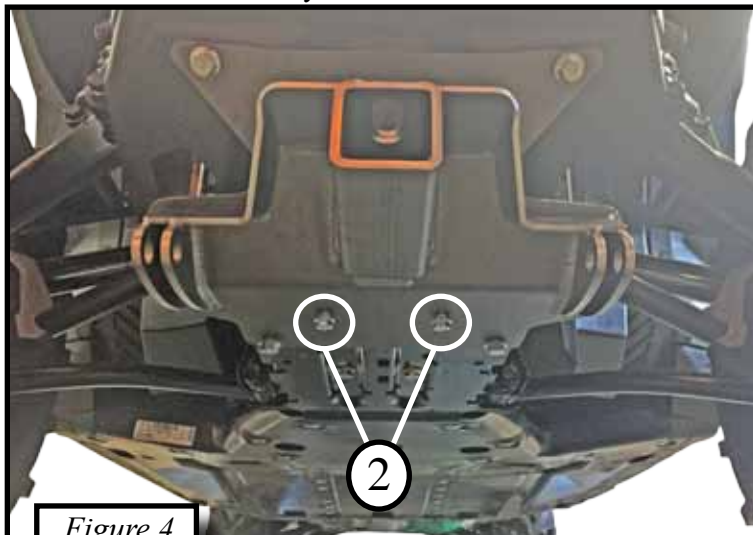

Figure 4
3. Insert 5/16" bolts (2) through mounting plate and machine as shown in *Figure 4*. Loosely thread nuts onto bolts. Once all hardware has been installed tighten all hardware down evenly.